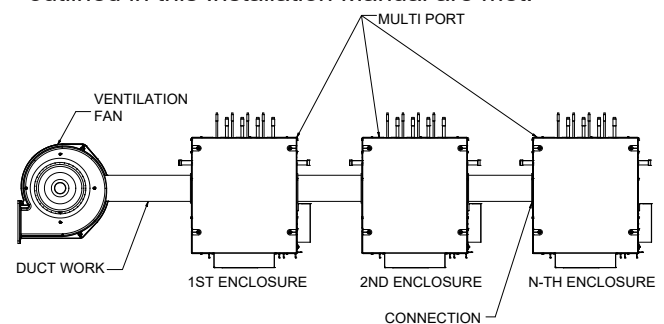

FIGURE S.1
- Depending on site requirements, the enclosure can be installed in either a series or parallel configuration. (Refer to Figs. S.1 and S.2.)